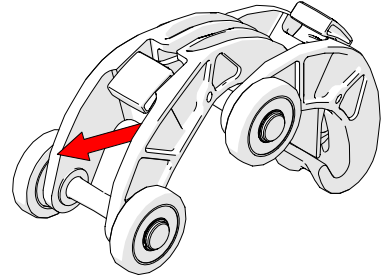

Fig. 40 - Pull the link backwards to secure catch
2. Pull the QuickLink until you hear a click that ensures the latch has been set (Fig. 40).